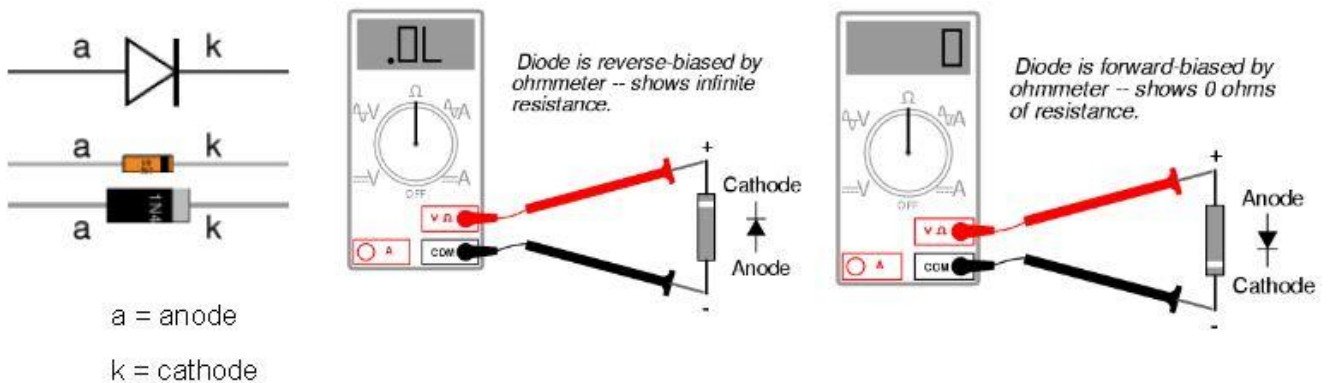

Figure 3
1. Test Diodes as shown in figure 3